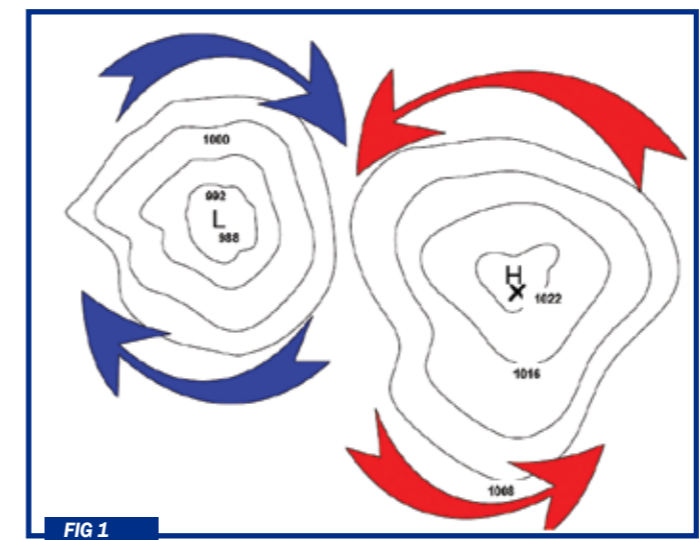

FIG 1
**Fig. 1.** An isobaric pattern showing a high and a low. The circular lines are the isobars themselves and are drawn in MB (or hPa hectopascals). The clockwise wind flow around the low is shown in blue and the anticlockwise flow around the high is shown in red.
**Fig. 2** shows the same isobar pattern as Fig. 1, but now airfields have been placed on it. The isobars show the wind direction around 2,000ft above those airfields. Airfield A is on the edge of a low and is experiencing a south-westerly wind, about  $220^\circ$  true. Airfield B, still within the low, has a north-westerly blowing around  $350^\circ$  true while airfield C is experiencing a north easterly around  $050^\circ$  true. Airfield D, in the clutches of the high, has a south-easterly wind from about  $100^\circ$  true.